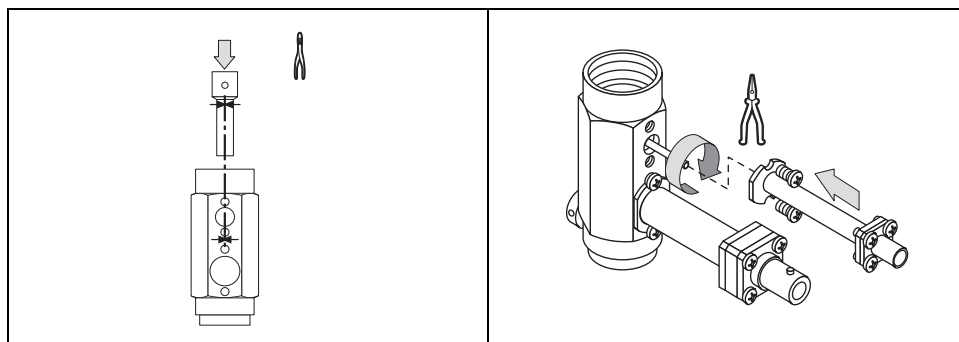

Figure 15-17. Clean/Replace the Collecting Electrode (2)
- a. Place the new collecting electrode into its housing. Ensure the insert hole is perfectly vertically aligned with the hole on the cell. See Figure 15-17.
10. Using forceps, reconnect the gold contact pin. See Figure 15-17.
11. Remount the connector holder assembly, verifying the contact efficiency. See Figure 15-17.
12. Screw the detector cap into its housing. See Figure 15-17.